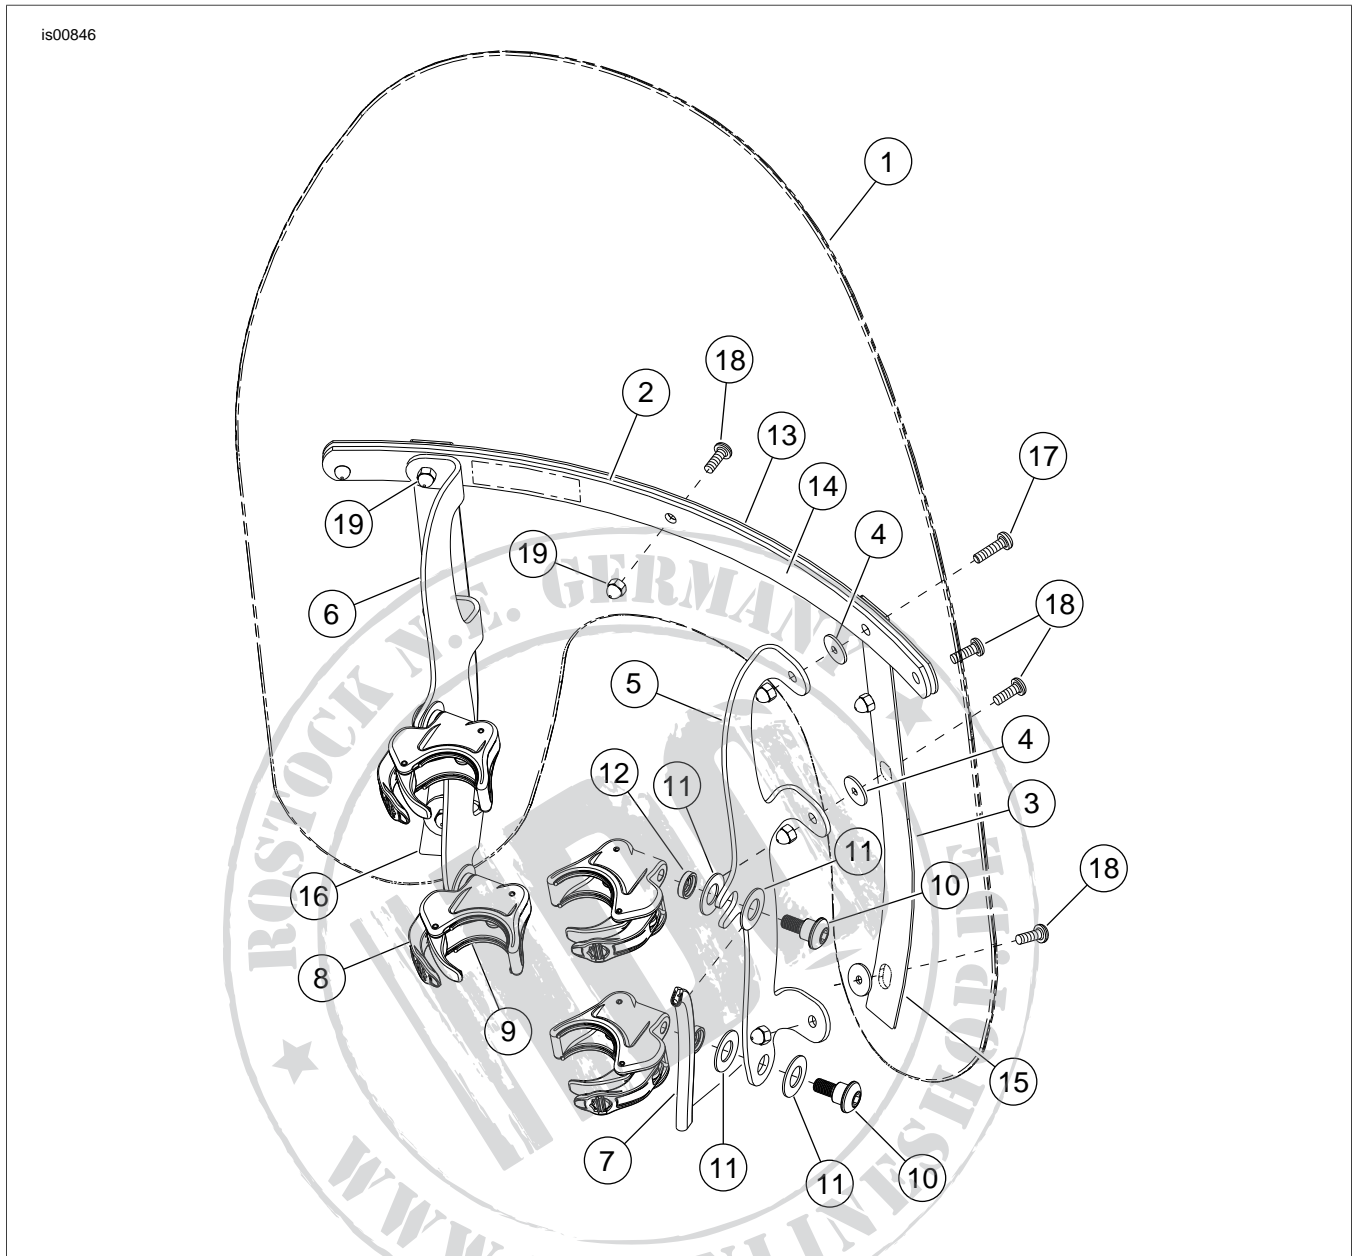

Figure 12. Service Parts: Detachable Windshield Kits
2. See Figure 12. Remove both clamp and hardware kits from packaging, and separate similar parts in preparation for assembly.
5. See Figure 12. Install windshield bracket edge trim piece (7) to protect against abrasion of throttle cables. The trim should be mounted between clamps on right-side windshield bracket, pushed all the way up to upper clamp mount hardware. Turn handlebars fully to left and right fork stops to confirm that throttle cables move freely.